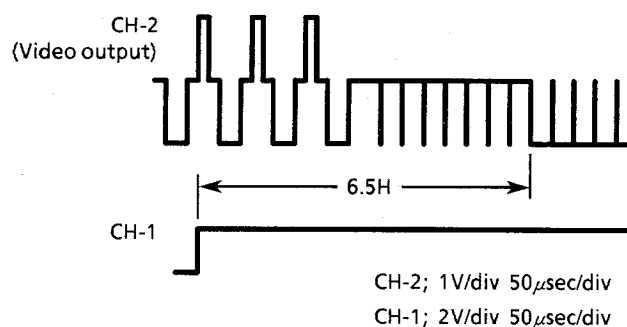

Figure 1-3.
3. Adjust R701 (PG ADJ. (PAL)) so that the waveform on the oscilloscope screen be as shown in *Figure 1-3*.